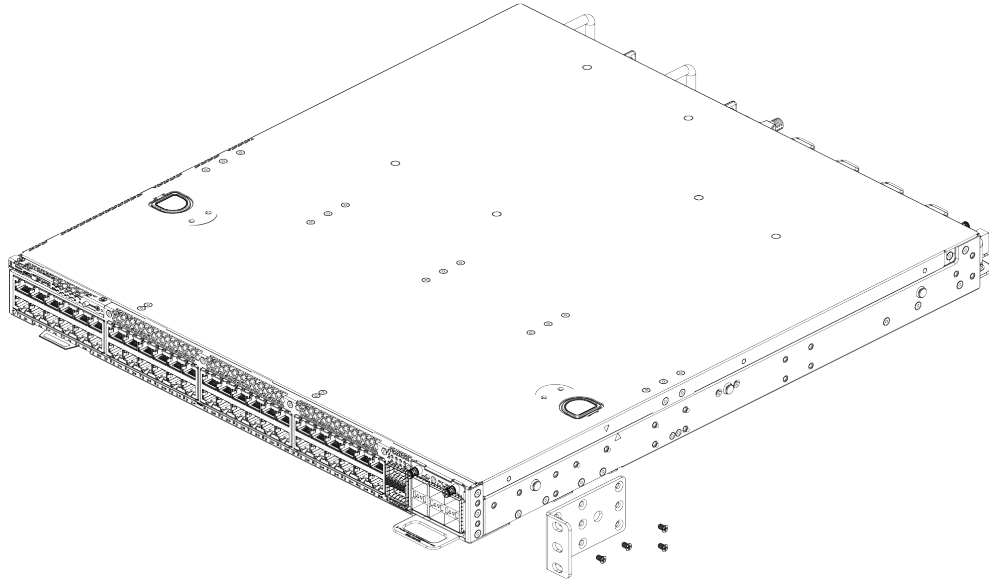

Figure 35: Attaching a Short Mounting Bracket (Ear): Front of Switch
- a. For a front mount, position the bracket over the holes so that the flange (ear) is even with the front of the switch, as shown in the figure below: Figure 35.